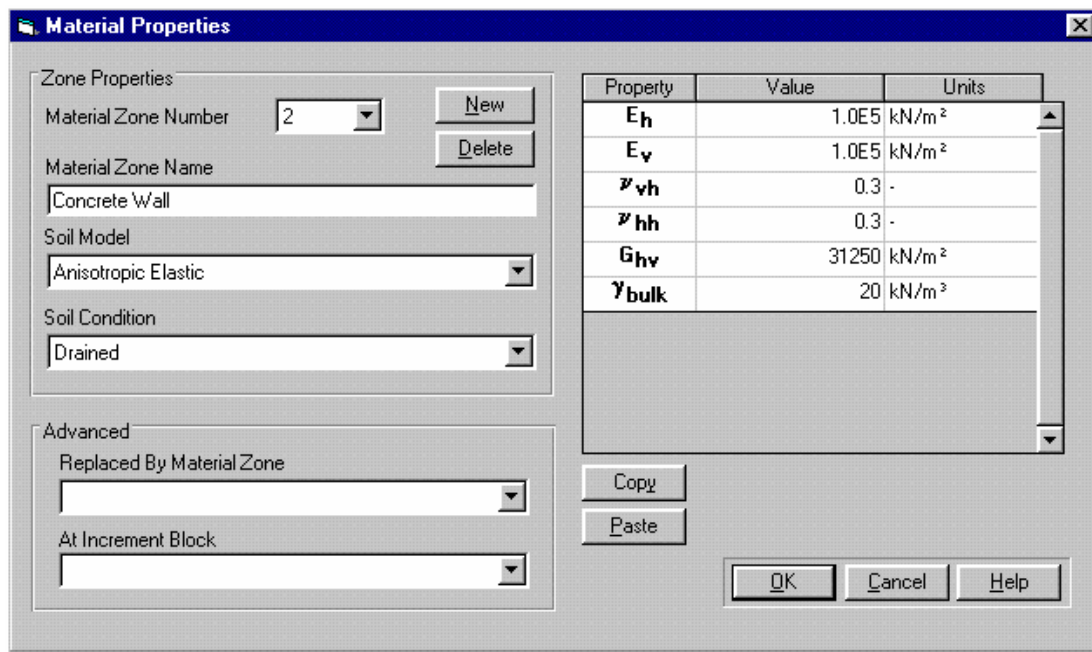

Figure 5-29: Material Properties dialog box
Step 4 The Material Properties dialog box should now look similar to Figure 5-29.